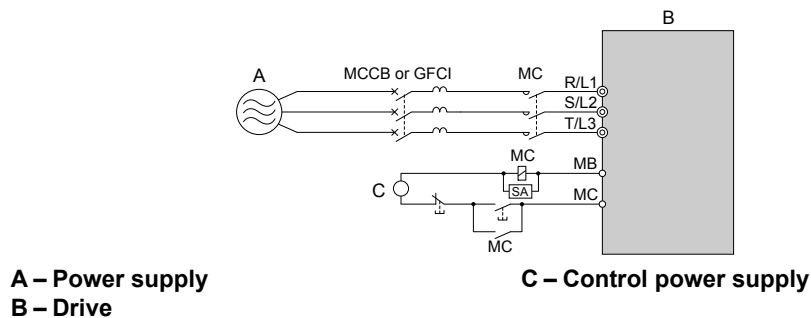

Figure 8.19 Power Supply Interrupt Wiring (Example)
- If several drives are connected to one MCCB or GFCI that is shared with other equipment, use a sequence that shuts the power OFF when errors are output by using magnetic contactor (MC) as shown in Figure 8.19.